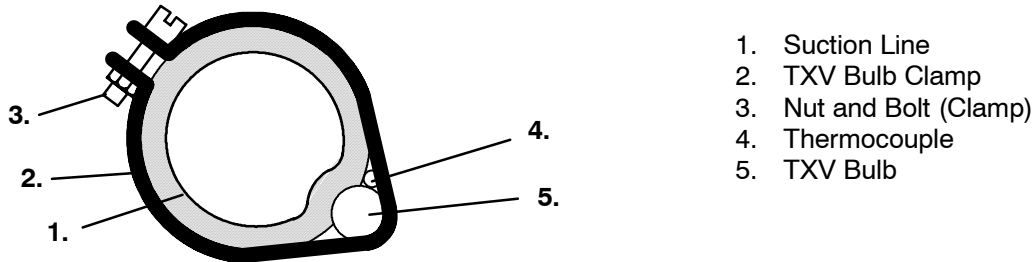

Figure 8-21. Thermostatic Expansion Valve Bulb and Thermocouple
6. The thermal bulb is located below the center of the suction line (See Figure 8-21). This area must be clean to ensure positive bulb contact. Firmly tighten the straps around the thermal bulb and suction line and insulate both with Presstite.
3. Place thermocouple above (parallel) TXV bulb and then secure loosened clamp making sure both bulbs are firmly secured to suction line as shown in Figure 8-21. Use Presstite insulation to completely cover both bulbs.